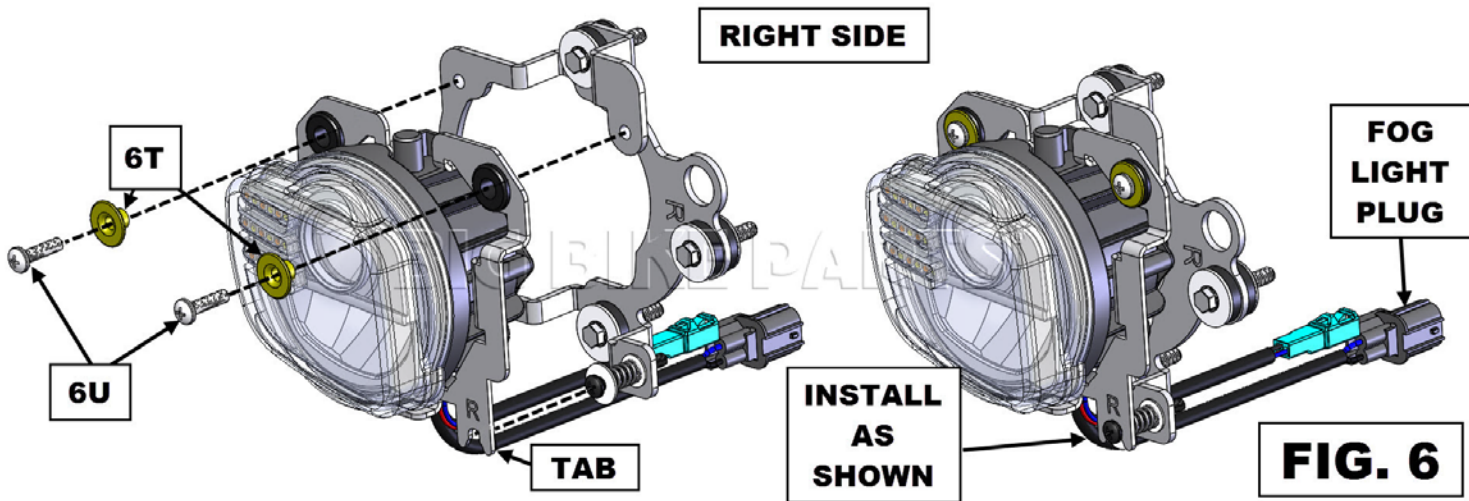

FIG. 6
- TAKE THE RIGHT LIGHT ASSEMBLY AND INSTALL IT IN THE RIGHT LIGHT MOUNT AS SHOWN IN FIG. 6. **NOTE: THE TAB SHOULD GO BETWEEN THE WASHER AND THE SCREW HEAD AS SHOWN IN THE RIGHT VIEW OF FIG. 6.**
- USING TWO M5 X 20MM LONG SCREW (6U) AND TWO GOLD FLANGE COLLARS (6T) ASSEMBLE TOGETHER AS SHOWN IN FIG. 6.